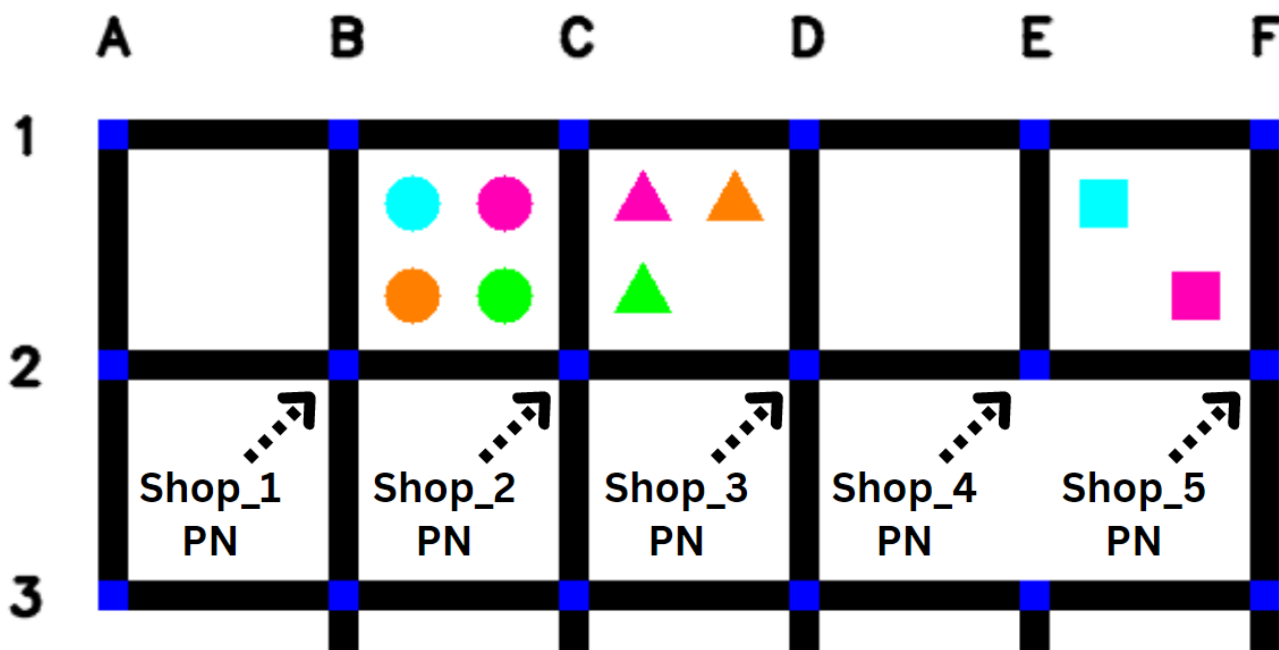

Figure 3: Pick-up Nodes
- Each Medical Shop has a Pick-up Node (PN), from where the Packages of that Shop can be picked up as shown in Figure 3.